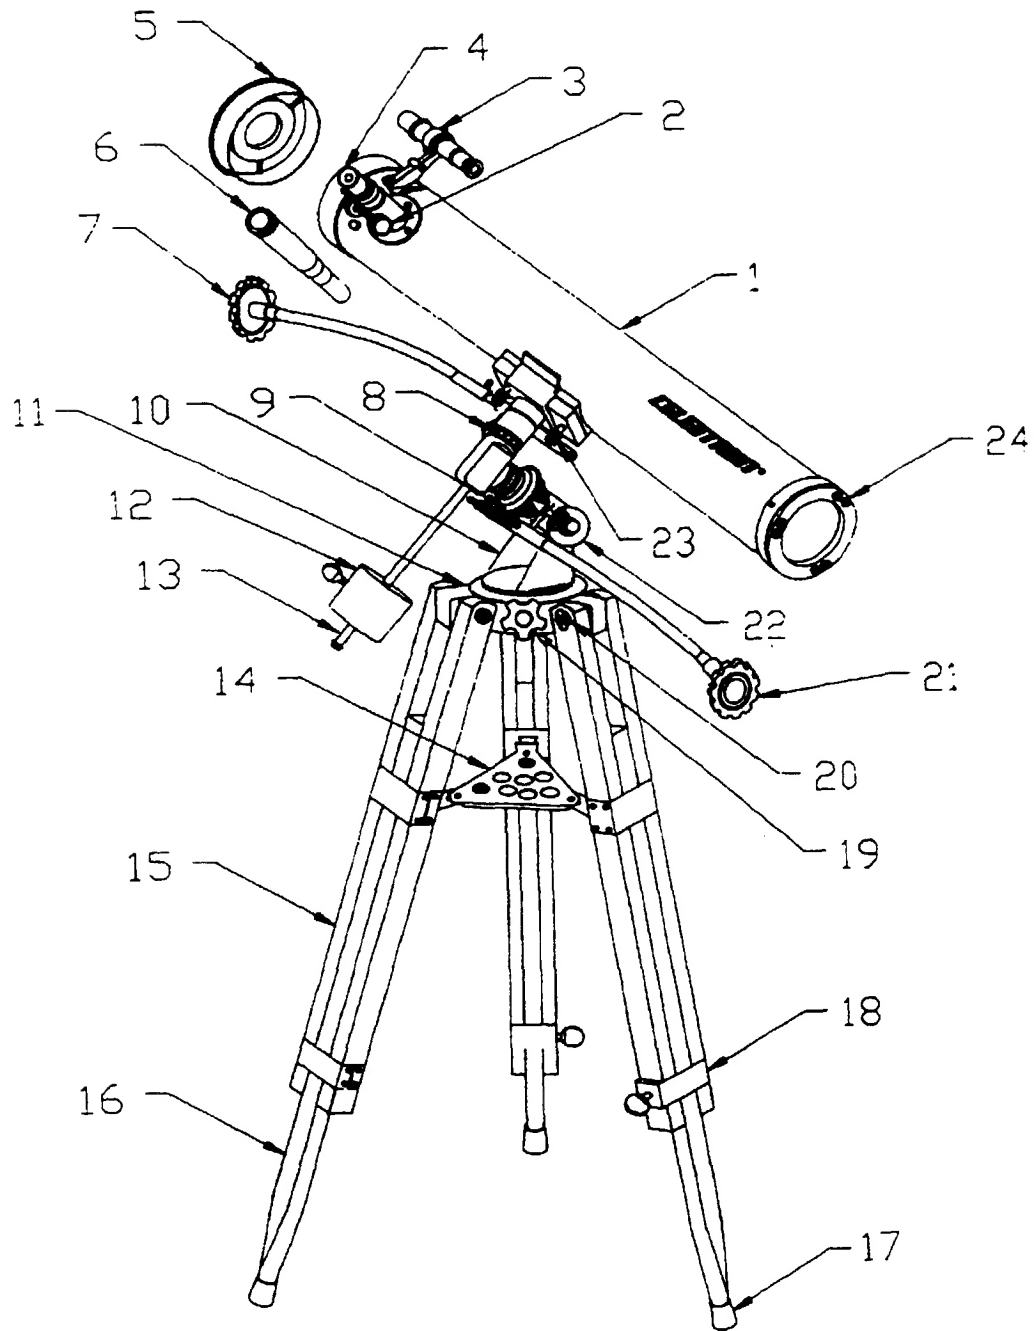

Figure 1
NOTE: Tripod and tube parts are the same as for the equatorial mount in Figure 1. Only those items that are different are labeled.
This manual covers both the equatorial mount models (see Figure 1) and the altazimuth mount models (see Figure 2). The altazimuth mount is the simplest and easiest type of mount to use with two motions—altitude (up and down) and azimuth (side-to-side). The equatorial mount is more expensive and contains setting circles and slow motion cables to make it easier to locate and track astronomical objects.
Please refer to Figure 1 (and the identifying parts list) as you assemble the telescope.
- a) Attach the equatorial mount (#10) to the tripod as shown in Figure 1.
B. Before proceeding further, locate knobs #19 and #22 and tighten them finger tight after orienting the mount as illustrated in Figure 1 — for equatorial mounts only.
4. Slide the counterweight shaft (#13) through the counterweight (#12). Use the counterweight lock to lock the counterweight in place. By holding the counterweight in one hand, thread the counterweight shaft clockwise into the equatorial mount as shown in figure 1.
1. Remove the nuts from the tube mounting screws (#23). Put the bolts from the tube, as shown in Figure 1 (#23), into the bracket at the top of the mount and tighten the nuts.